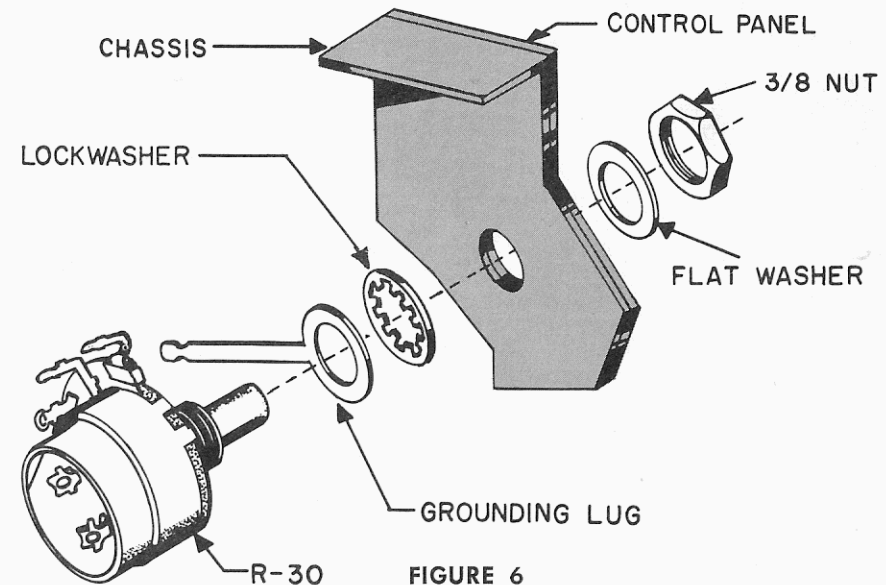

FIGURE 6
- ✓ R-30 control with switch attached, and long grounding lug. See Figure 6. Place the grounding lug and $\frac{3}{8}$ " lockwasher over the control shaft. Mount the control as shown and fasten with a $\frac{3}{8}$ " flat metal washer and nut.